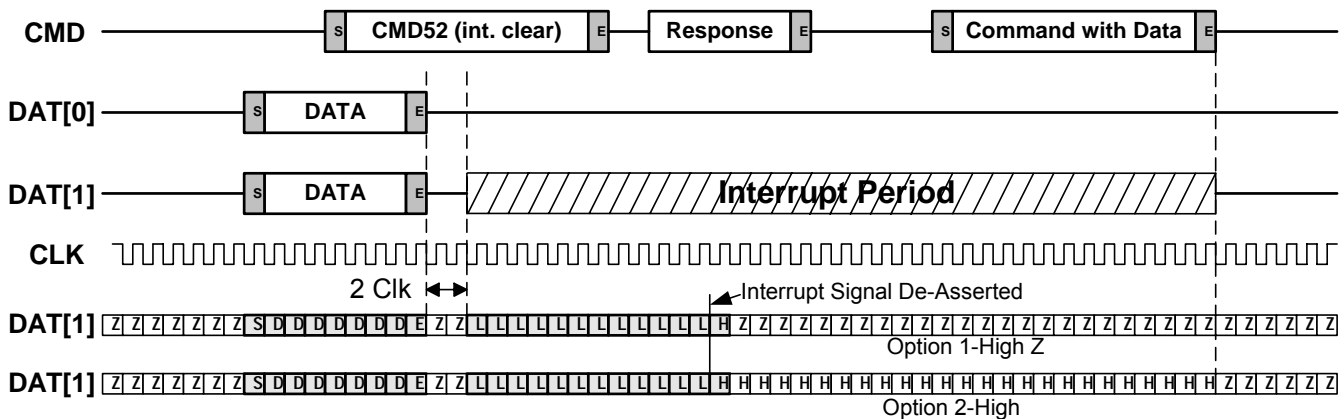
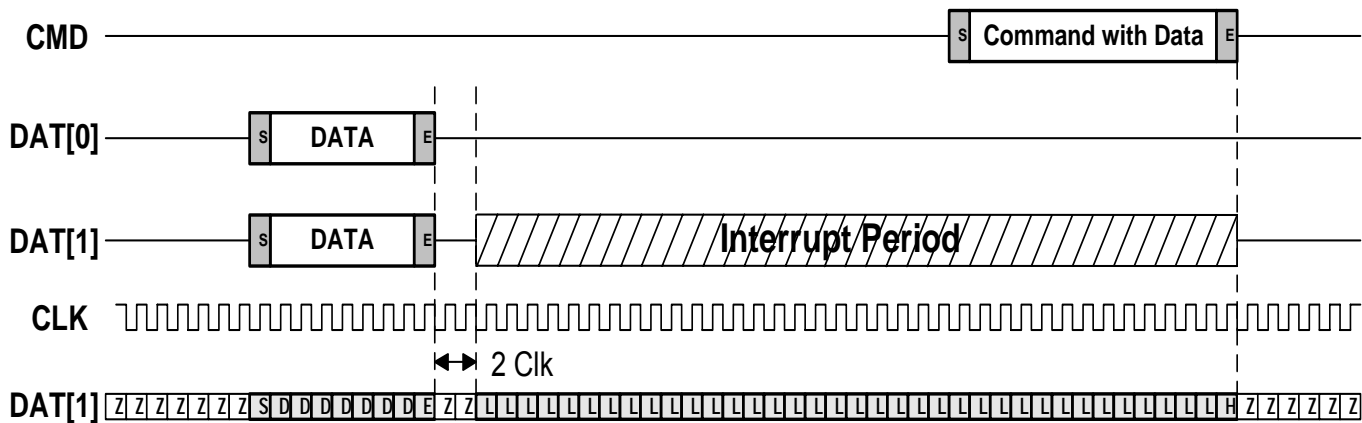

Figure 8-7 Interrupt Cycle Timing
Figure 8-8 Alternate Interrupt Cycle Timing
In the SD 4-bit mode the card shall drive DAT[1] high for a minimum of 1 clock cycle before terminating the Interrupt Period. This signaling is shown in Figure 8-7 and shows the situation where the period of interrupt signaling is shorter than that of the Interrupt Period. In this example, the interrupt is cleared by a CMD52 write operation prior to the end of the Interrupt Period. The SDIO card can release the interrupt in one of two possible ways. Option #1 is for the SDIO card to place the DAT[1] into a hi-z after the single clock time of driving DAT[1] high (H). Option #2 is for the SDIO card to keep the DAT[1] line high (H) until the end of the Interrupt Period and then place the line into the hi-z state. Figure 8-8 shows the case where interrupt is de-asserted at the end of the Interrupt Period. In this case, the DAT[1] is driven to a high level prior to the card releasing the line to the hi-Z state.